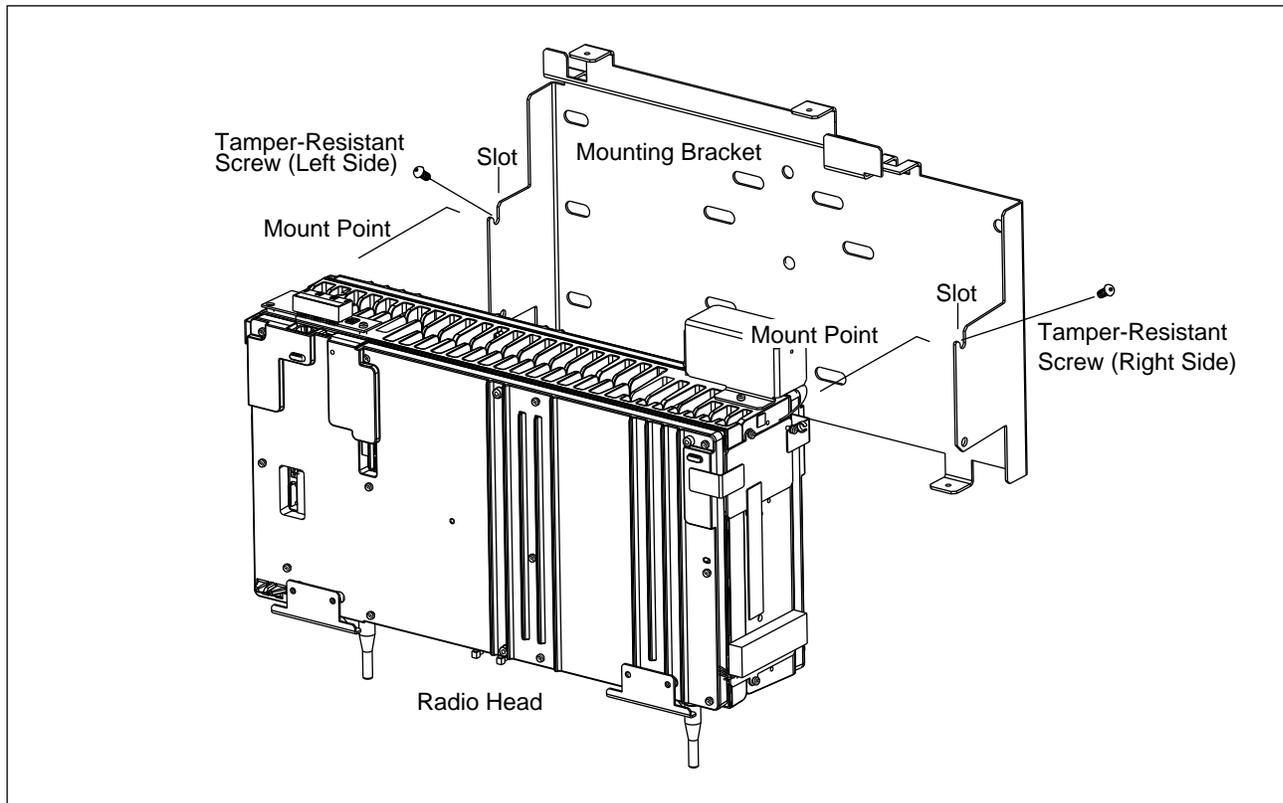

Figure 6-18. Removing Radio Head from Mounting Bracket
10. Loosen the upper tamper-resistant screws on each side of the Radio Head that secure it to the mounting bracket. See Figure 6-18 on page 6-47 for the location of the upper tamper-resistant screws.
14. Hang the Radio Head on the mounting bracket by placing the Radio Head between the two mount points and by sliding the tamper-resistant screws into the slots on the mounting bracket. See Figure 6-18 on page 6-47.
20. Install one tamper-resistant screw into each side of the new Radio Head (KRC 121 104/1 or /2). See Figure 6-18 on page 6-47.